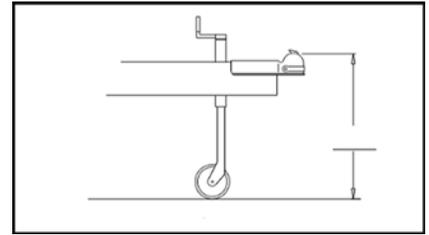

Figure 7: On a level surface, measure the height of your trailer coupler to ground.
•Line up tow vehicle and trailer on level pavement, in straight-ahead position, uncoupled. Level the trailer and measure and record the distance from the ground to the top of the coupler (see Figure 7).